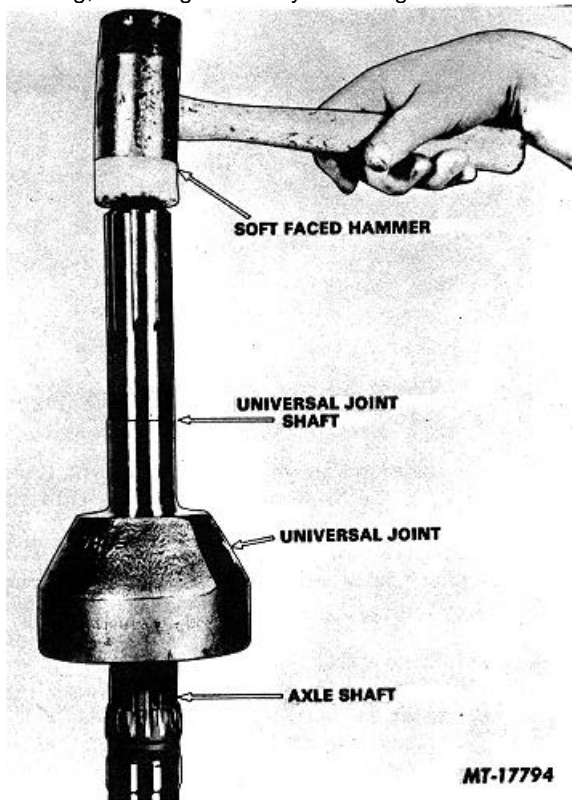

Fig. 19 Assembling Axle Shaft and Universal Joint
5. Place universal joint on top of axle shaft index end of axle shaft in splined inner race. Tap end of universal joint shaft with a soft faced hammer to collapse lock ring, securing assembly. See Fig. 19.